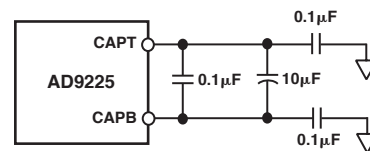

Figure 6. Recommended CAPT/CAPB Decoupling Network
The actual reference voltages used by the internal circuitry of the AD9225 appears on the CAPT and CAPB pins. For proper operation when using the internal or an external reference, it is necessary to add a capacitor network to decouple these pins. Figure 6 shows the recommended decoupling network. This capacitive network performs the following three functions: (1) along with the reference amplifier, A2, it provides a low source impedance over a large frequency range to drive the ADC internal circuitry, (2) it provides the necessary compensation for A2, and (3) it bandlimits the noise contribution from the reference. The turn-on time of the reference voltage appearing between CAPT and CAPB is approximately 15 ms and should be evaluated in any power-down mode of operation.